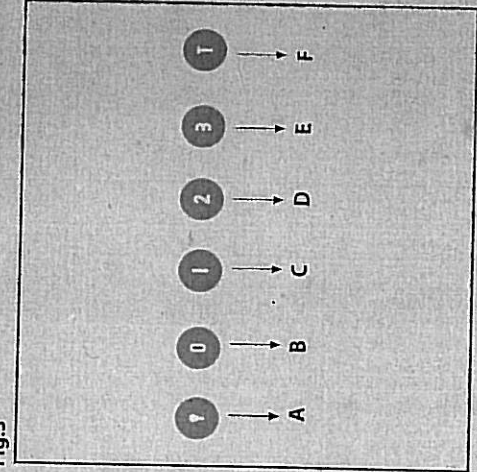

Fig. 5
• **Commands:** (fig.5) **luminous** the key symbols are explained below: